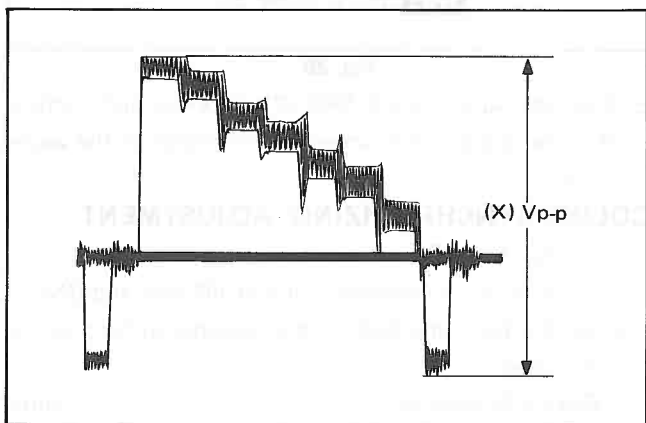

Fig. 29
4. Then keep recoded of the (X)Vp-p on the waveform as shown in Fig. 29.
6. Adjust R5997 (COMB Gain) so that the amplitude becomes equal to that recorded in Step (4).
8. Confirm that the difference in the amplitude compared with that recorded in step (4) is within the range of $\pm 15mVp-p$.